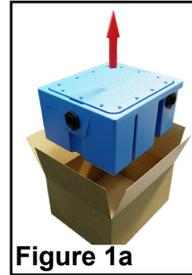

Figure 1a
- Remove the interceptor from the box. **Figure 1a.**